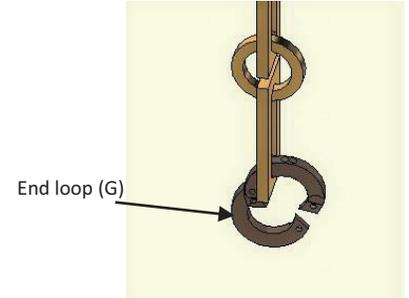

Fig.4
4. Unscrew the end loop (G) of each set of chains. (Fig.4)
5. Screw each canopy (A) and set of chains to the ceiling plates.